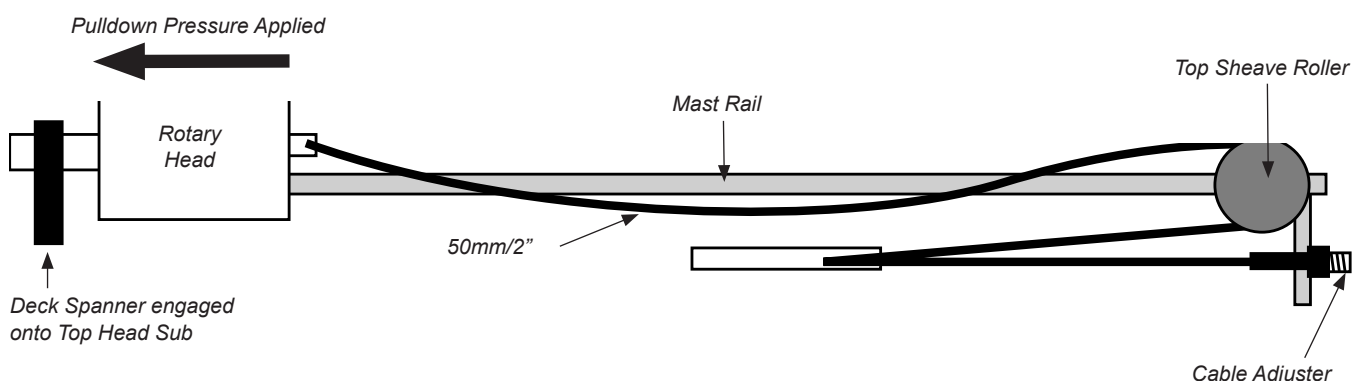

Fig. 6-7 Hoist Pulldown Cables
Step 4: Once the bottom cables are hanging exactly the same apply minimal feed pressure (approx. 500-600psi (34.5-41.4bar) to bring the cable slack onto the hoist cables, then activate the Auto feed to maintain the determined pressure. Check the hang of the top cables and adjust both cables to exactly the same hang, using the hoist cable adjusting nuts (fig. 6-7).